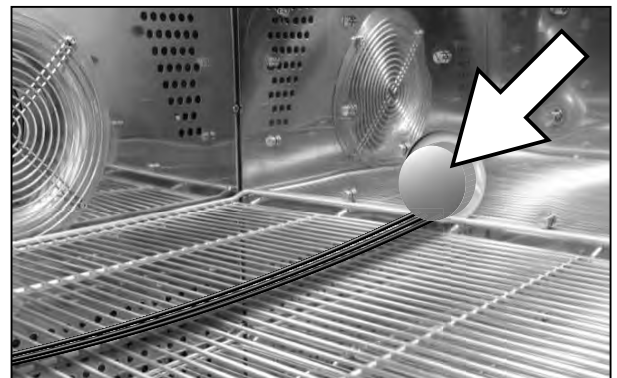

Fig. 18 Cable feed-through with plugs in the right-hand side of the appliance
- ▶ Switch on appliance by pressing the main switch on the front of the appliance (see Fig. 18 on page 27).
4. Check whether the silicone plugs have been inserted into the feed-through on the right side of the appliance and if the seal is tight (see Fig. 18 on page 26).
The pressure compensation can be accelerated considerably by removing the silicone plugs (Fig. 18 on page 26).
For test samples which require wires during the test (for power supply or for measuring purposes), the test chamber is equipped with a cable feed-through on the right-hand side (Fig. 18, see also page 10).
Pull out the silicone plugs if they are plugged in (Fig. 18), and push the wires into the interior of the chamber. Then re-insert the plugs and press them tight, so that no heat/humidity can escape from inside the chamber through the feed-through.